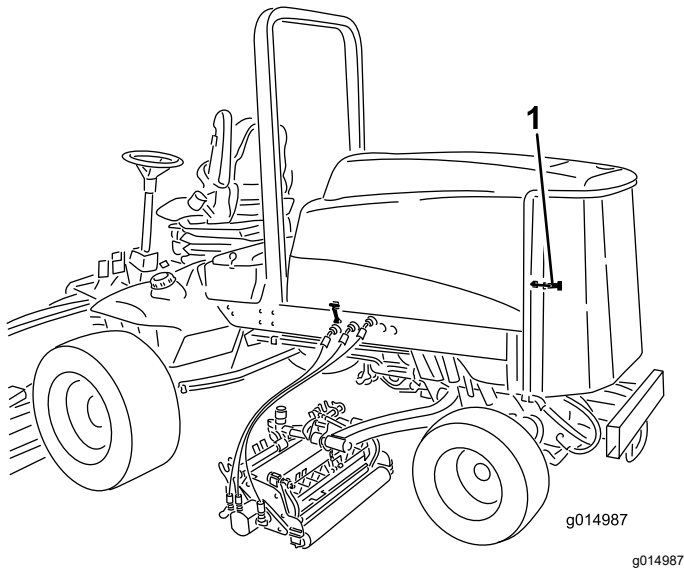

Figure 93
1. Unlatch and swing open rear screen (Figure 93). Clean the screen thoroughly of all debris.